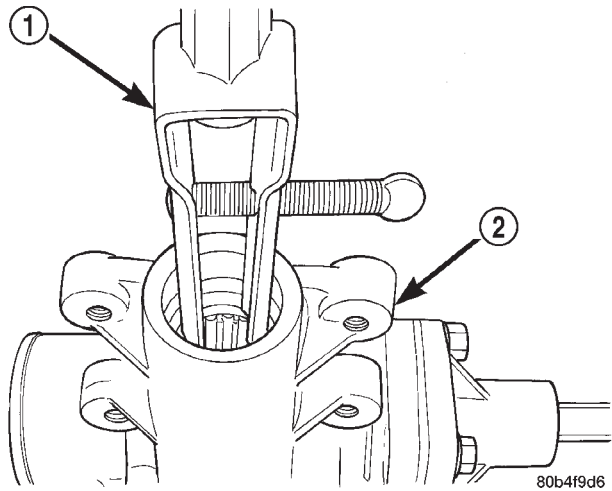

Fig. 24 Dust Seal
(12) Remove pitman shaft dust seal from the housing with Puller 7794-A and Slide Hammer C-637 (Fig. 24).